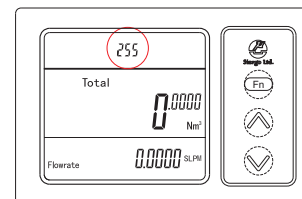
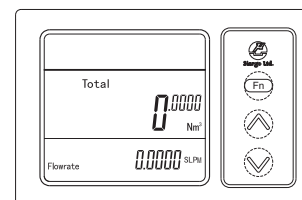

Figure 6-8 Multi-device communication mode
Figure 6-9 Single-device communication mode
#### (4) Communication Modes switches (Figure 6-8, Figure 6-9)